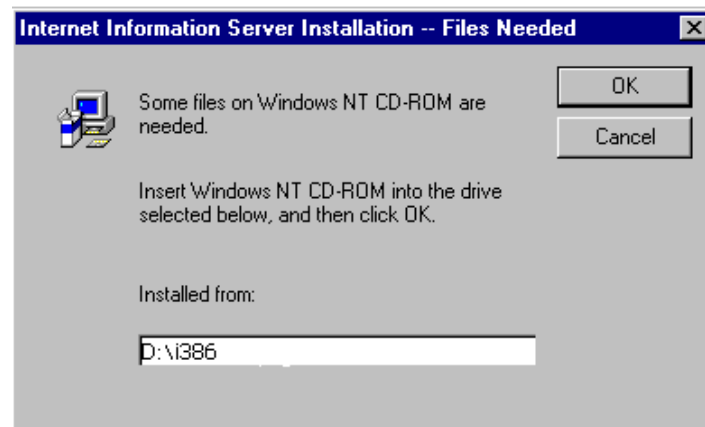

Figure 2.2. Internet Information Server Installation Dialog Box
3. The **Internet Information Server Installation** dialog box will appear, as shown in **Figure 2.2**. This dialog box will inform you that additional files are needed for installation. In the **Installed from** field, type in the drive on which your computer runs CD-ROMs, plus ".\i386"; or click on the **Browse** button to locate the **i386** folder on your CD-ROM drive. After locating the **i386** folder, click on it to have it appear in the **Installed from** field. Insert the Windows NT CD-ROM and click on the **OK** button on the **Internet Information Server Installation** dialog box.